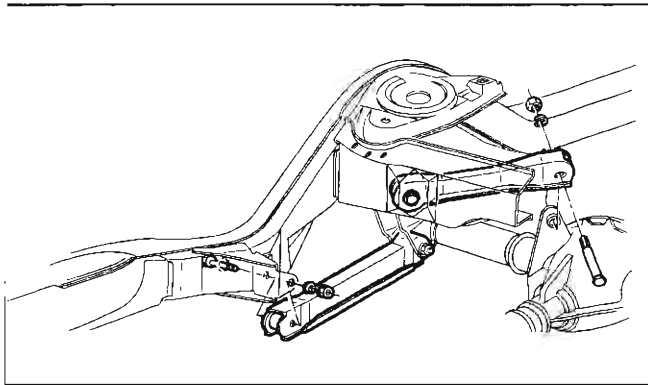

Fig. 33—Upper and Lower Control Arm Assembly
1. Place control arm into position between the forward and rearward mounting brackets and install retaining bolts. Refer to Figure 33 for installation view of control arms.